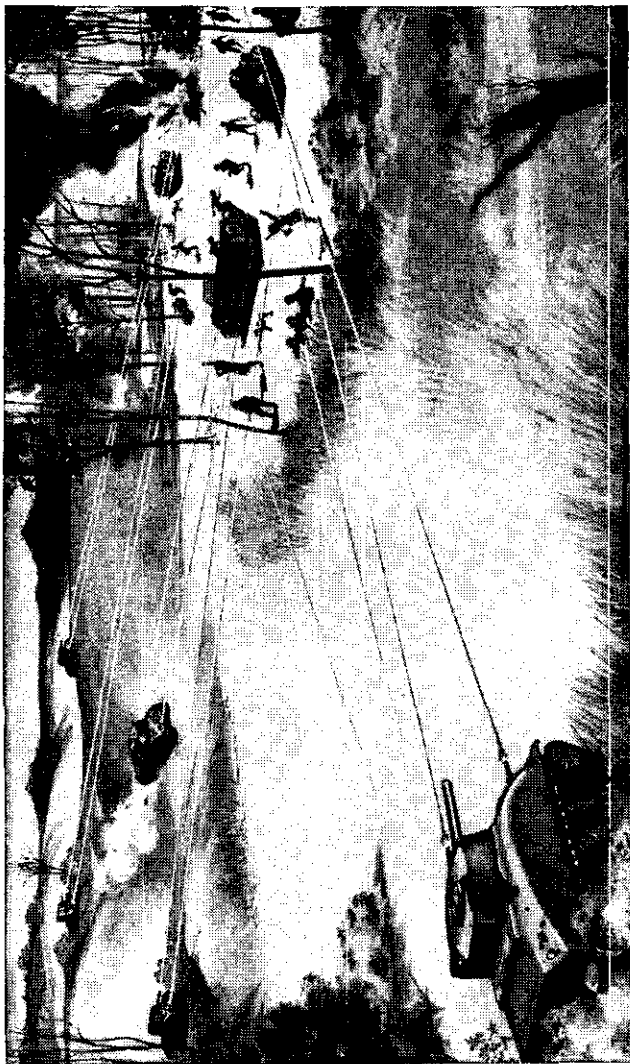

FIGURE 1.—Importance of machine guns—destroying enemy command post.
■ 3. IMPORTANCE OF THE MACHINE GUN.—The ultimate objective of the armored division is vital rear installations. These are attacked less with cannon than with the crushing power of the tank and with its machine guns (figs. 1 and 2). The